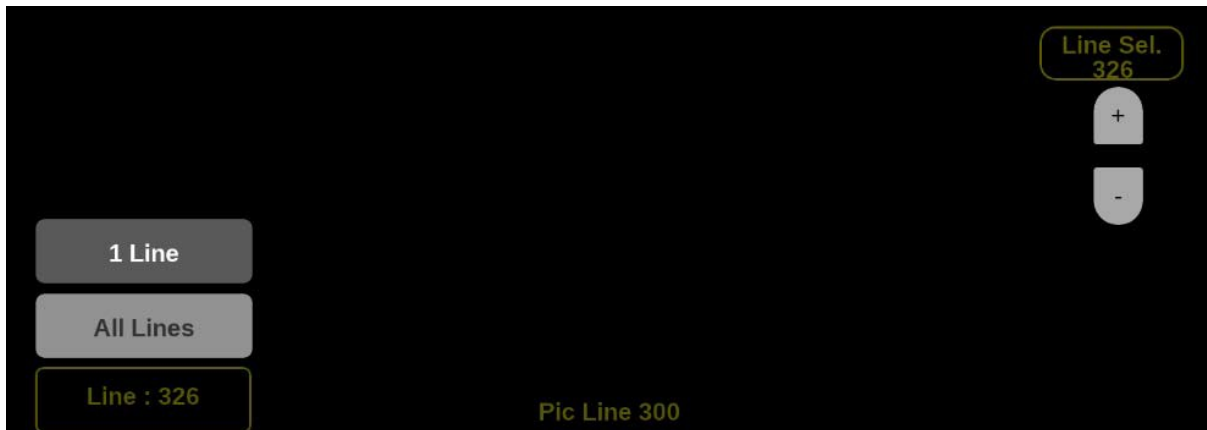

Figure 221: CIE on-screen tools – Line Select
If **1 Line** is selected then the display will only show results for the selected line in the picture. The line can be selected using the on-screen tools. (See Line Select function.) Or the line can be selected directly on the Picture. (See Figure 221.)
1. Select the **Lines** button at the bottom of the application. (See Figure 221.)